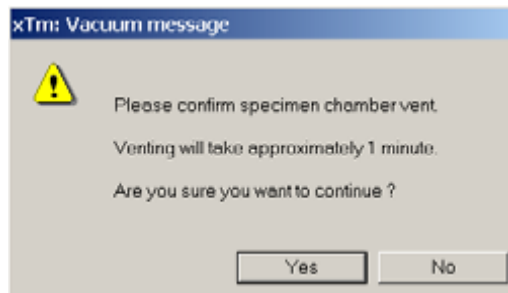

Figure 2 – Confirmation Dialogue window
- 1.5 A confirmation dialogue box will appear (refer to figure 2). Click on the **Yes** button to start venting.